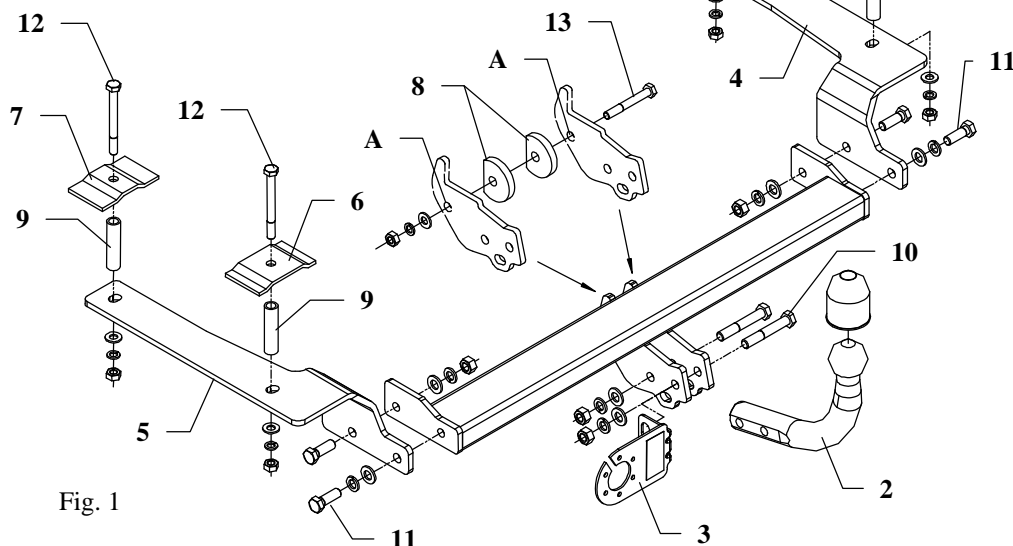

Fig. 1
4. To prepared holes put distance sleeves $\phi 17$ mm, L=70mm (pos. 9).
5. On holes put fish-plates (pos. 6 and 7) as shown on figure 1, next put bolts M10x100mm (pos. 12).
6. Underneath the car, to the chassis frame put side brackets (pos. 4 and 5) and fix it loosely.
7. Between installed brackets put main bar of the towbar (pos. 1) and fix it loosely using bolts M12x35mm (pos. 11).
8. Through holes pos. A fix with original towing eye using cut washers $\phi 58 \times \phi 12 \times 10$ mm (pos. 8) and bolt M10x75mm (pos. 13).
11. Fix tow-ball (pos. 2) and socket plate (pos. 3) by bolts M12x75mm (pos. 10) from accessories.